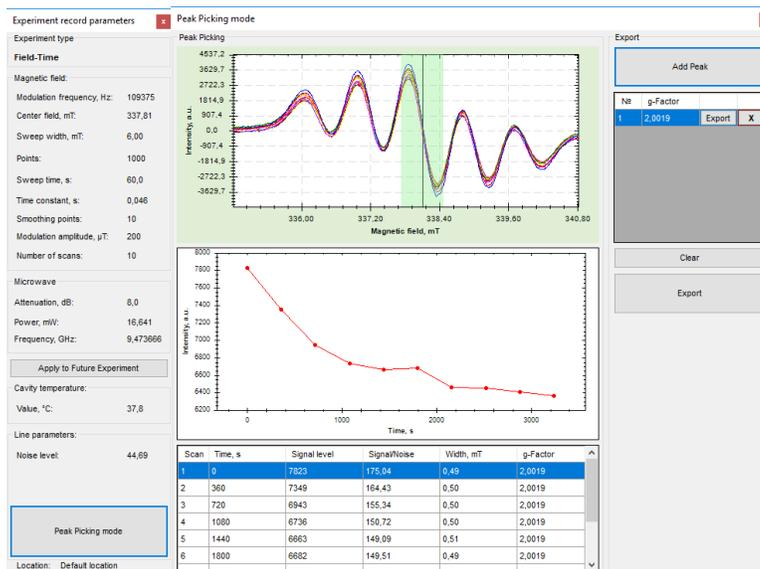

Figure 6.17 – Field-Delay experiment report
- Switch to **peak picking mode** by pressing the corresponding button in the experiment report (Fig.6.17);